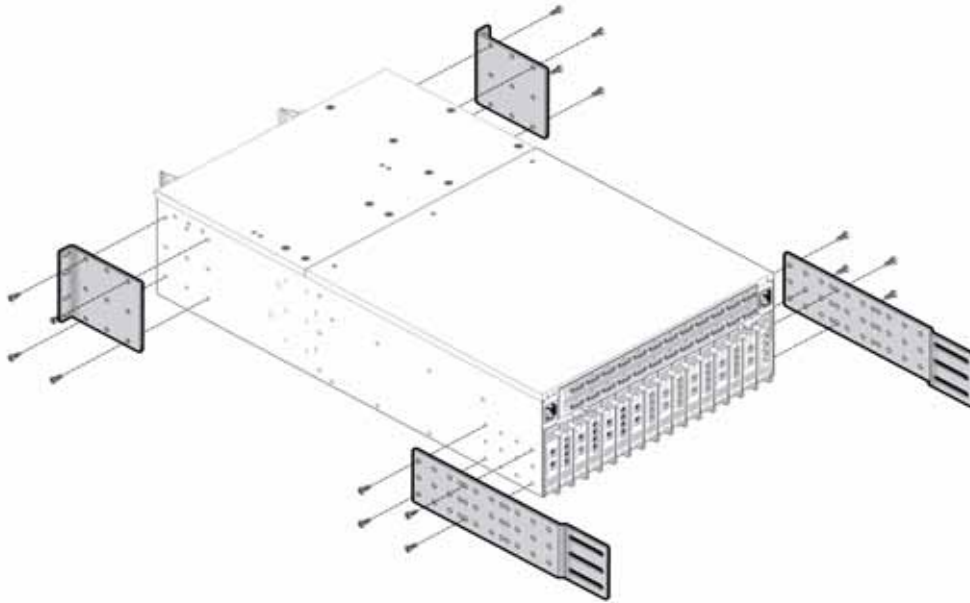

Figure 1 Installing the Mounting Brackets and Side Panels
- Step 7** Using the flat-head screws, attach the side panels (4 screws per side panel) and mounting brackets (4 screws per bracket) to the Fabric Director. Figure 1 on page 14 shows installing these components.